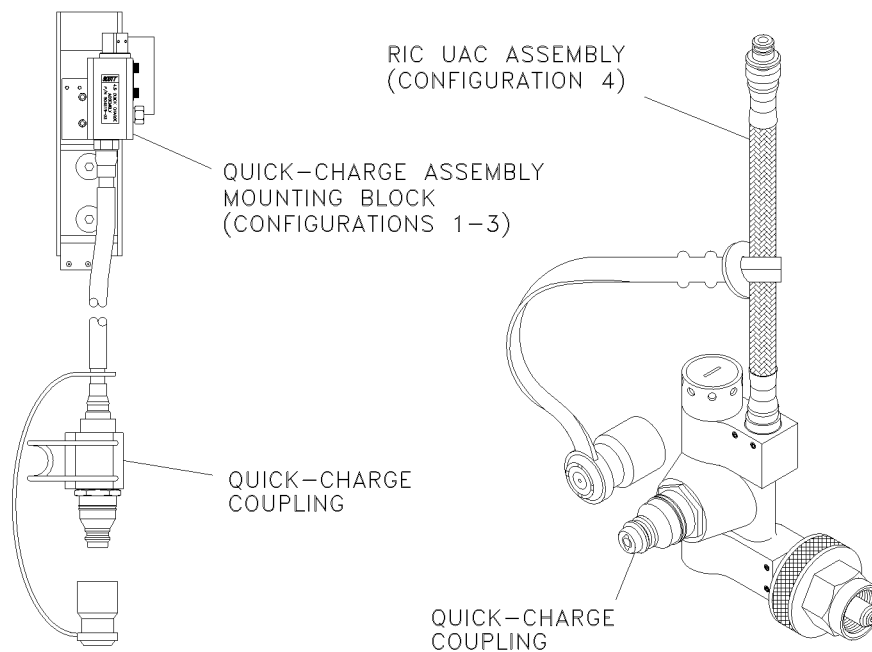

Figure 077-3-9. Quick-Charge Assembly and RIC UAC Assembly
3. Quick-Charge Assembly. The quick-charge assembly (Figure 077-3-9) is mounted to the pressure reducer via the quick-charge assembly mounting block on SCBA Configurations 1, 2, and 3. The quick-charge coupling provides for recharging the cylinder with 4,500 psig Grade D compressed air without requiring removal of the cylinder. The quick-charge coupling is either located at the end of the quick-charge assembly hose, or is integrated into the RIC UAC assembly.
4. RIC UAC Assembly. The RIC UAC assembly (Figure 077-3-9) directs high-pressure air from the cylinder valve to the pressure reducer during normal operation on SCBA Configuration 4. The RIC UAC assembly is equipped with a relief valve that will open at approximately 4,850 psig if the pressure of the emergency air supply exceeds the maximum pressure rating of 4,500 psig.